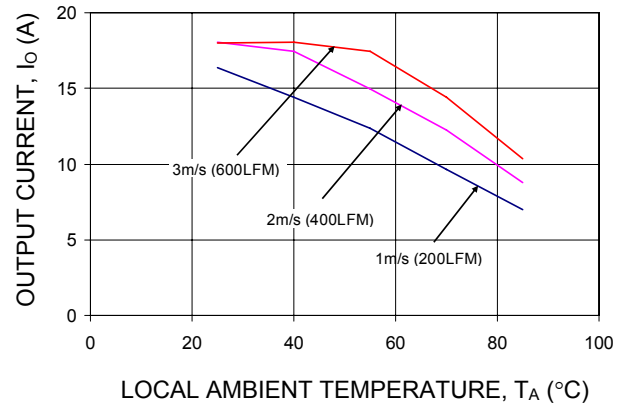

Figure 14. Output Current Derating for the QBW018A0B in the Transverse Orientation with no baseplate; Airflow Direction from Vin(+) to Vin(-); $V_{in} = 48$ V
Note that the natural convection condition was measured at 0.05 m/s to 0.1 m/s (10ft./min. to 20 ft./min.); however, systems in which these power modules may be used typically generate natural convection airflow rates of 0.3 m/s (60 ft./min.) due to other heat dissipating components in the system. The use of Figures 14 - 15 are shown in the following example:
Determine required airflow (V) (Use Figure 14):